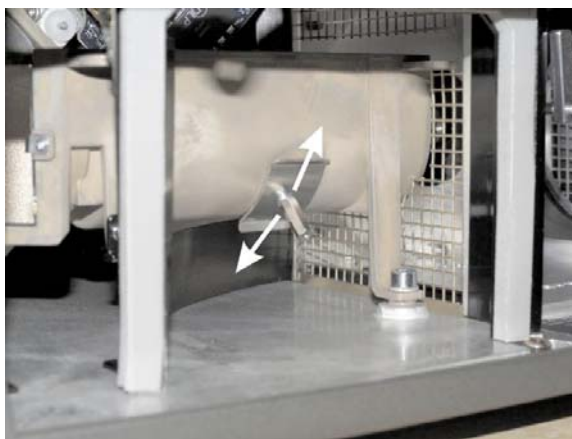

Figure 41. Adjust Integrator Rod (A)
2. Adjust the integrator by moving the thumb wheel/standoff up or down (see Figure 40.) until it fills the DMD and all corners of the displayed image are filled in (no shadowing) as shown in Figure 41.